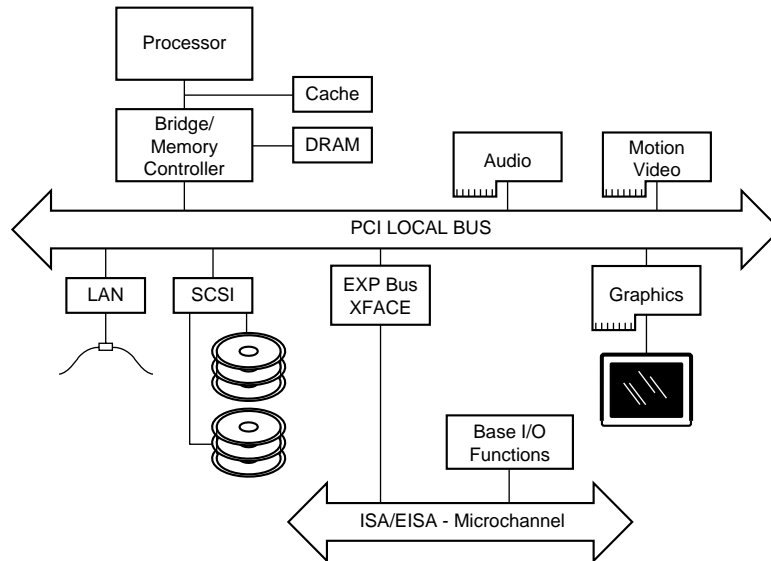

FIG. 5.13 Conceptual diagram of the PCI bus.
*PCI* is an acronym for *Peripheral Component Interconnect*. The PCI bus specification, released in June 1992 and updated in April 1993, redesigned the traditional PC bus by inserting another bus between the CPU and the native I/O bus by means of bridges. Rather than tap directly into the processor bus, with its delicate electrical timing (as was done in the VL-Bus), a new set of controller chips was developed to extend the bus, as shown in Figure 5.13.